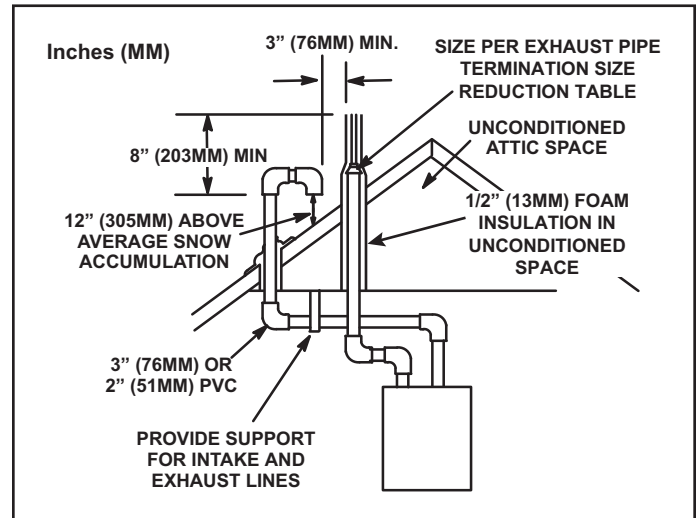

Figure 28. Direct Vent Roof Termination
3. On roof terminations, the intake piping should terminate straight down using two 90° elbows (Figure 28).